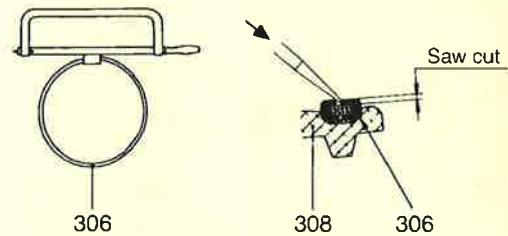

Figure 2: Removing the joint clamp
- Remove the hexagon nuts (607) and serrated lock washers (608) as well as the hexagon screws (606).
- Pull the suction casing (505) across the rotor (401). Make sure that the finely crafted rotor is not damaged.
- Take off the gasket for suction casing (501).
- Saw open the lock on the joint clamp (306) with a metal saw and press it out on both sides with a screwdriver.
- Take the joint clamp (306) off the joint sleeve (308) (see figure 2).